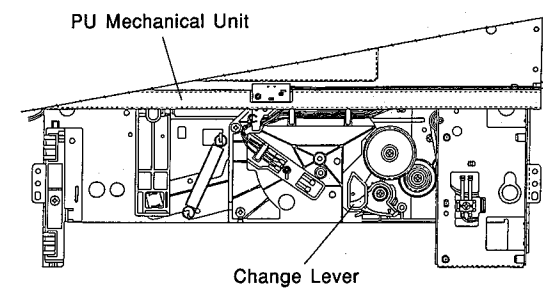

Fig. 3
- The Cam Gear and Idler Gear are not engaged, in other words, the Change Lever is as shown in Fig. 3.